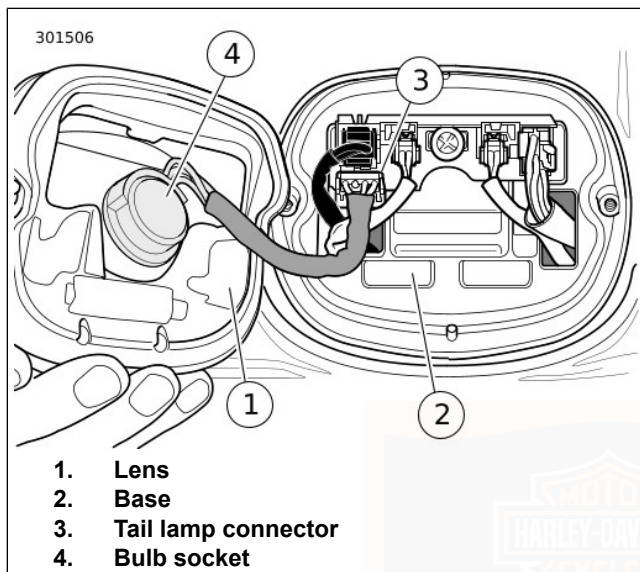

Figure 102. Tail Lamp Assembly
2. See Figure 102. Disconnect tail lamp connector (3).
3. Rotate bulb socket (4) a quarter turn counterclockwise and remove from tail lamp assembly. Remove bulb.
2. See Figure 102. Insert socket (4) into tail lamp assembly. Rotate a quarter turn clockwise.
3. Attach tail lamp connector (3).